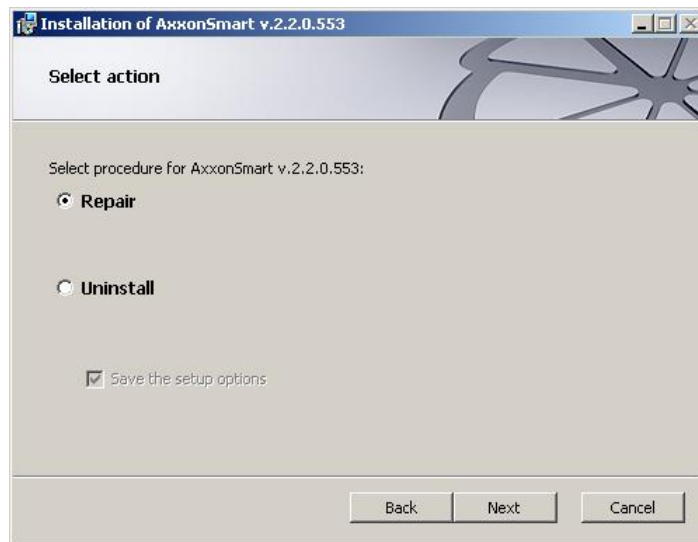

Fig. 3.2—14 Reinstallation type selection dialog box
4. Select the **Repair** option and click **Next** (see Fig. 3.2—14).